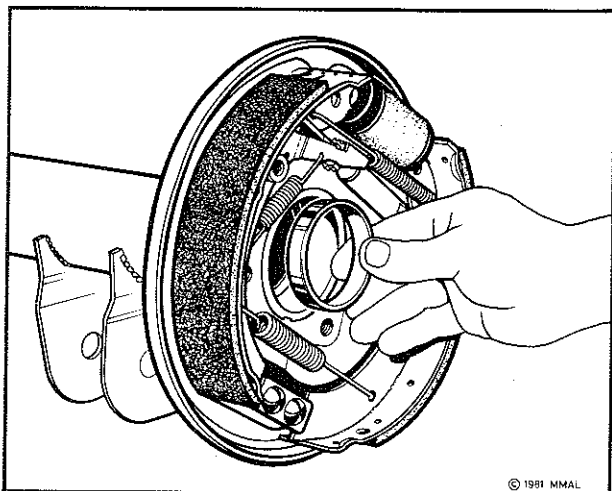

Fig. 4—Installing bearing cup
- (2) Install the bearing cup into the housing ensuring that it seats against the back face of bearing cup recess area in the axle housing, refer Fig. 4.